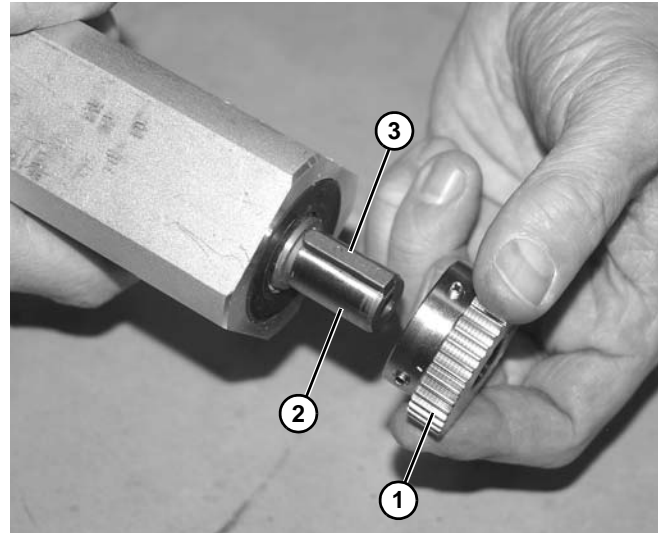

Figure 80
8. Remove gear (**Figure 80, item 1**) from motor shaft (**Figure 80, item 2**).
9. Remove key (**Figure 80, item 3**) from end of motor shaft.